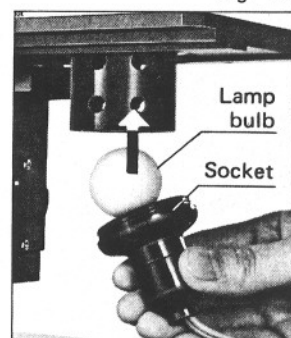

Fig. 14
7. Attaching the lamp bulb for simplified illumination (Fig. 14)